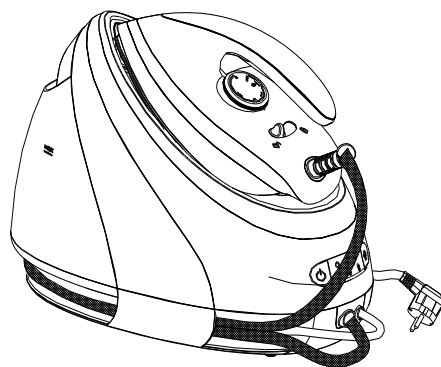

Fig.5
6. Follow the operation as below to store the steam supply hose and power cord along the cord winding groove: firstly, fold the steam supply hose in two and wind it along the cord widening groove, then fix it at the cord widening groove; secondly, fold the power cord in two and wind it along the cord widening groove, then fix it at the cord widening groove (See Fig.5).